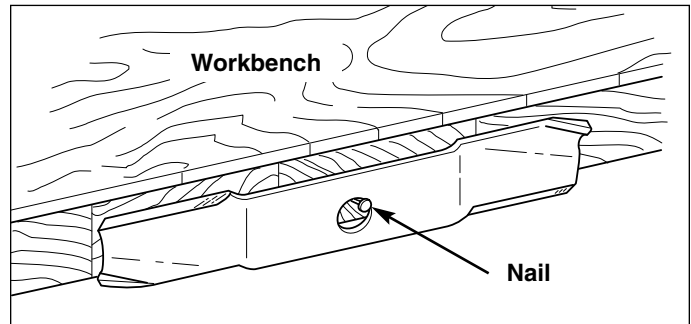

Figure 28. Balancing The Blade
5. Balance the blade as shown in Figure 28. Center the blade's hole on a nail lubricated with a drop of oil. A balanced blade will remain level.